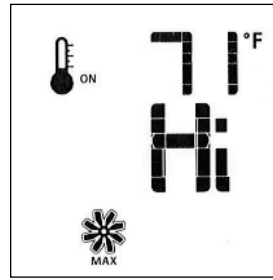

Fig. 8.22. Fan Speed.
- Use the Up/Down Arrow Keys to turn ON, OFF, or adjust the fan speed. Fig. 8.22. A single “beep” will confirm reception of the command. After a 5 minute interval, the fan will power up to its highest speed and then modulate down to the established fan speed setting. The fan will continue to operate for 12 minutes after the burner is turned off. Manual speed control is not available when the SMART Thermostat is ON.